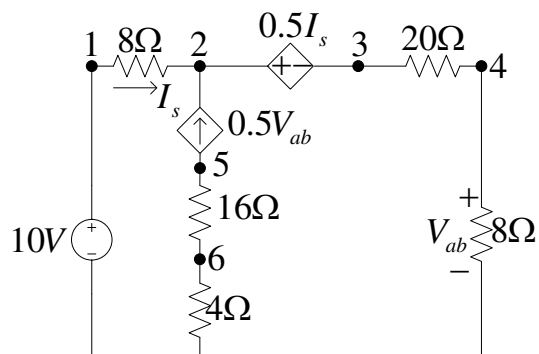

Figure 11. A circuit with VCCS and CCVS.
- Draw the circuit of Figure 11 using PSpice Schematic.
- Theoretically calculate all the currents and the voltages for the circuit shown in Figure 11.
- Compare the theoretical solution of the circuit shown in Figure 11 with the solutions obtained from PSpice simulation.